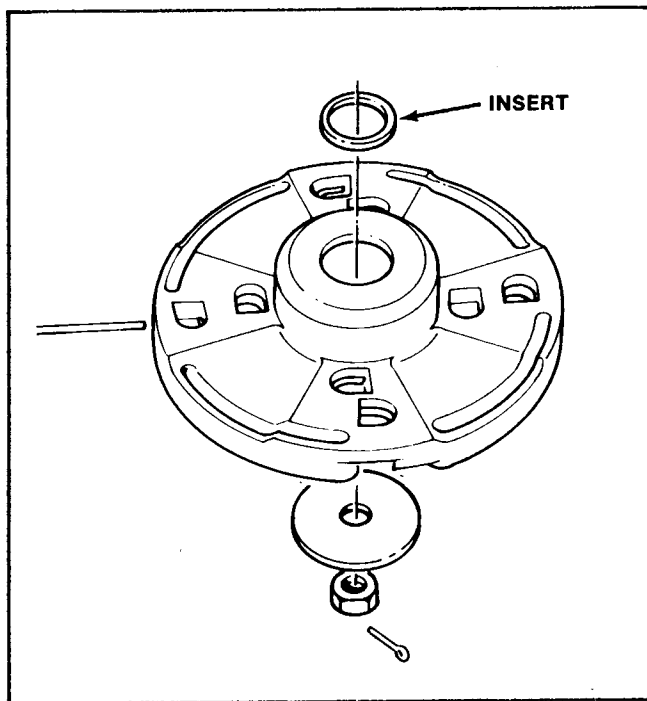

Figure 153
1. Place the insert around the flange on the lower gearbox cover. See Figure 153.